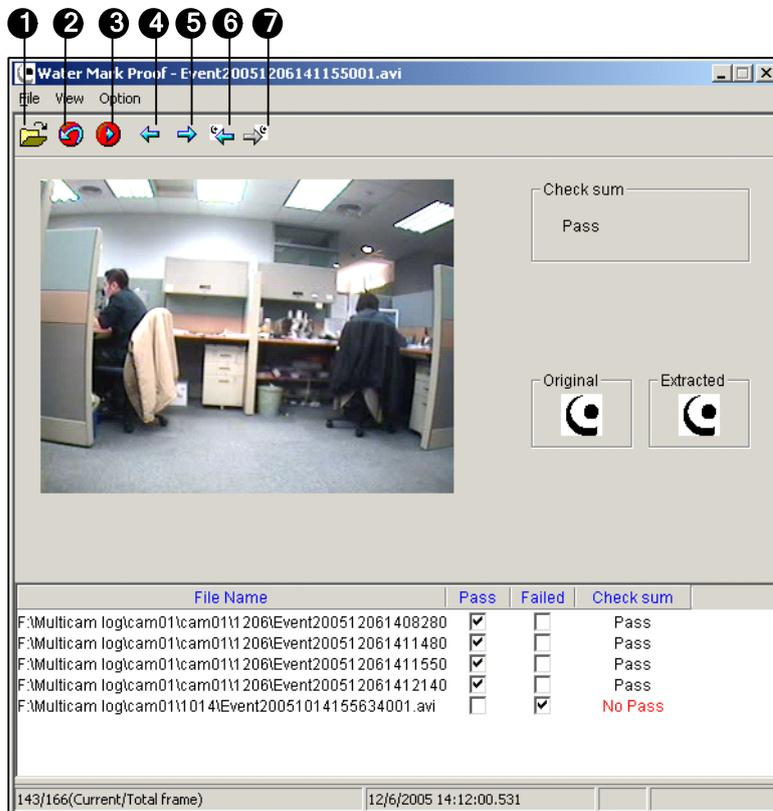

Figure 10-13
3. Click the **Open File** button (No.1, Figure 10-13), select a video file and click **Open**. The video file is then listed in the status field of the window. Also, you can drag multiple video files directly from storage folders to the status field.